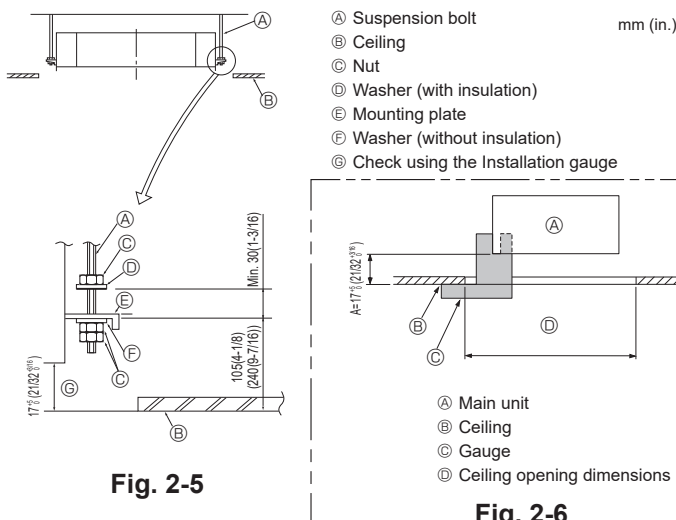

Fig. 2-5
① Wooden structures
② Ferro-concrete structures
2.5. Unit suspension procedures (Fig. 2-5)